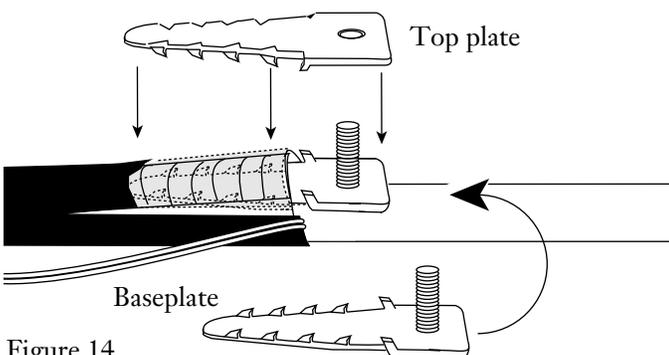

Figure 14
- Insert the base plate under the armor. Be careful not to damage the central tube. Place the top plate over the base plate and tighten the two pieces using a lock nut (Figure 14). A few light taps on the top plate may help seat the teeth into the armor.